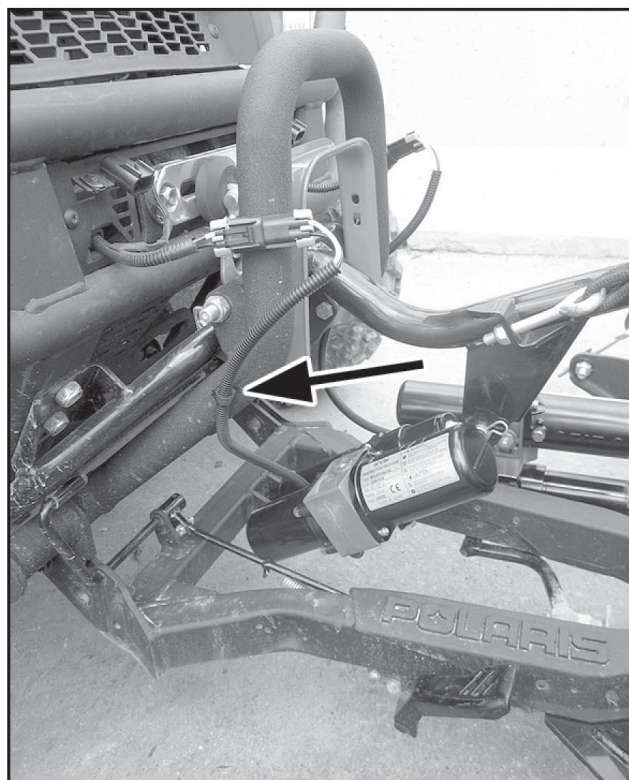

Figure 25
6. The clip that was installed in **step 5** (in *Wiring Kit Assembly Section*) should now be pushed into the 1/4" hole on the right hand side of the mid frame as shown in figure 25.